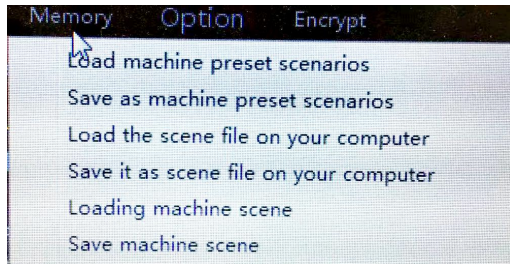

Figure 3.4.1
As shown in Figure 3.4.1 MAESTRO-8DSP software of the scene in three major types of actions: the machine stored scene data, computer data stored scene and the whole scene data manipulation.
**Step1:** Click on the main interface to the top menu " Memory " button will pop up all the scenes action item (see Figure 3.4.1).
**step1:** Click on the main interface to the top menu " Memory " button will pop up all the scenes action item (see Figure 3.4.1).
**step 1:** Click on the main interface to the top menu " Memory " button will pop up all the scenes action item (see Figure 3.4.1).
**Step1:** Click on the main interface to the top menu "Memory" button will pop up all the scenes action item (see Figure 3.4.1)